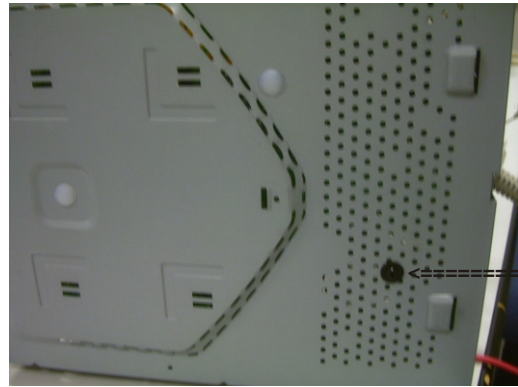

Fig. 15
- Remove a screw from back of bottom tray as shown in Fig. 15.